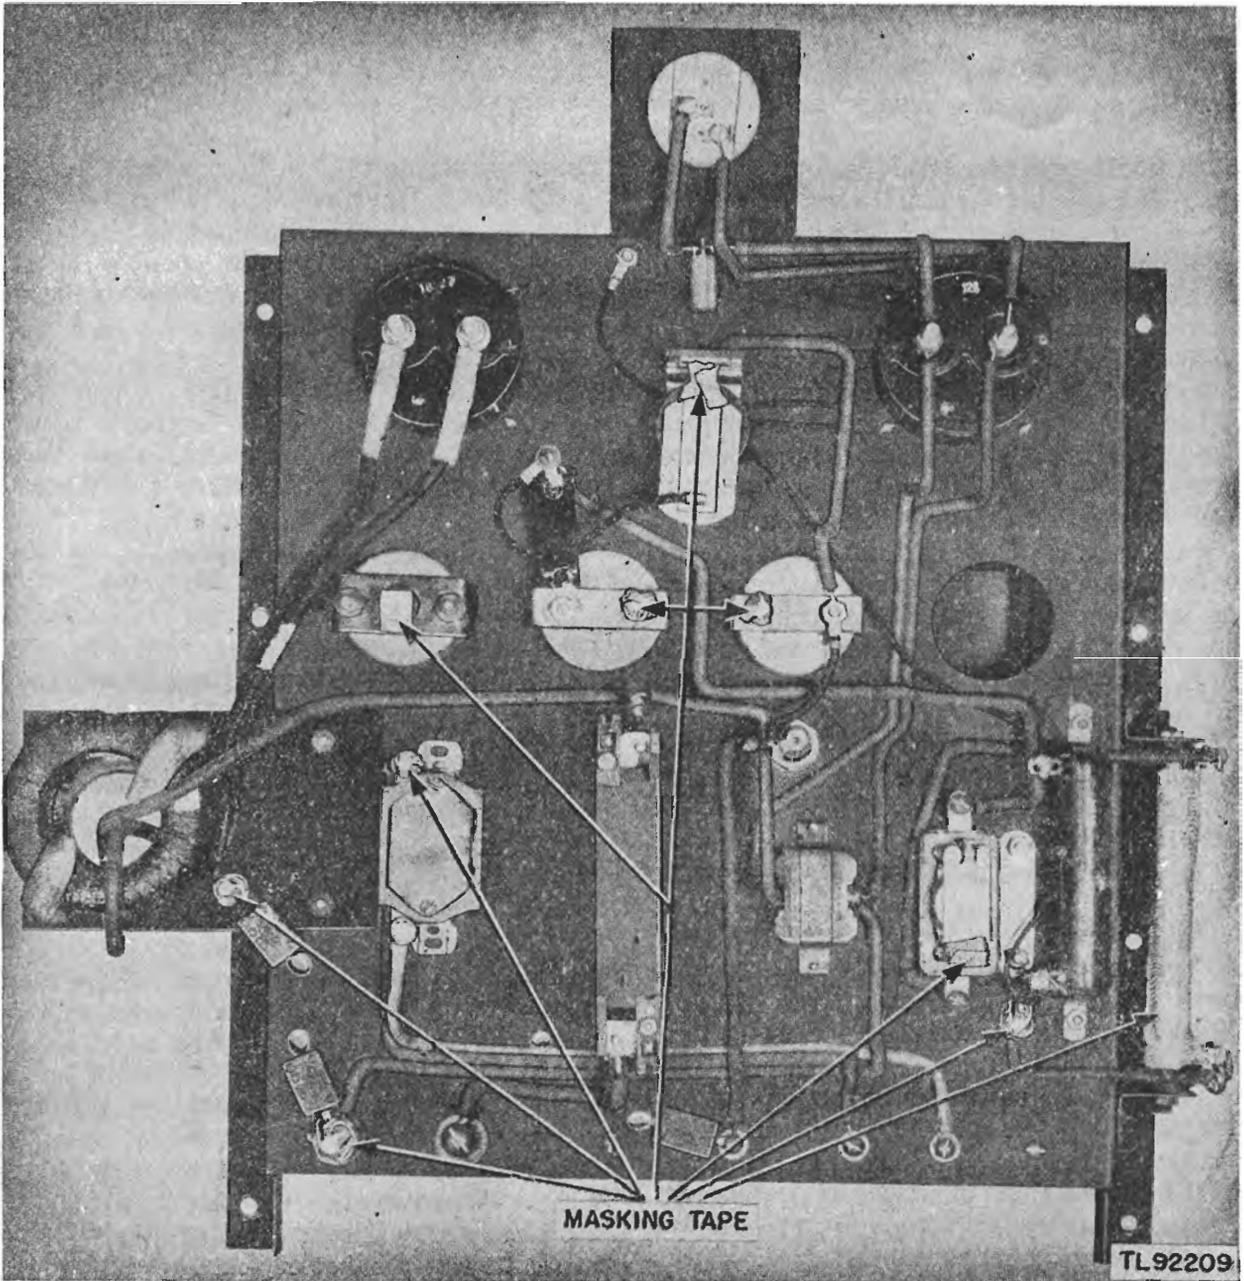

Figure 25. Power Unit PE-95-(1), panel, moistureproofing and fungiproofing details.
d. MASKING. (1) Mask the contacts of the battery-charging relay with masking tape.
(2) Mask the contacts of the battery-charging voltage regulator with masking tape.
(3) Mask the adjustable portions of the voltage-regulator resistors with masking tape.
(4) Mask all lugs on unfastened leads with masking tape.
(5) Mask all terminals from which leads have been removed with masking tape.
(6) Mask the moving parts in the front chamber of the automatic electric choke with paper and masking tape.
(7) Mask the terminal sockets on the magneto distributor cap with masking tape.
(8) Mask the contacts on the magneto-stopping relay with masking tape.
(9) See figures 25, 26, 27, and 28 and make sure that all indicated surfaces have been masked.
f. VARNISHING. (1) Apply three coats of moistureproofing and fungiproofing varnish (Lacquer, Fungus-resistant, spec No. 71-2202 (stock No. 6G1005.3), or equal). Allow each coat to air-dry for 15 or 20 minutes at temperature specified in subparagraph *e* above before applying the next coat.